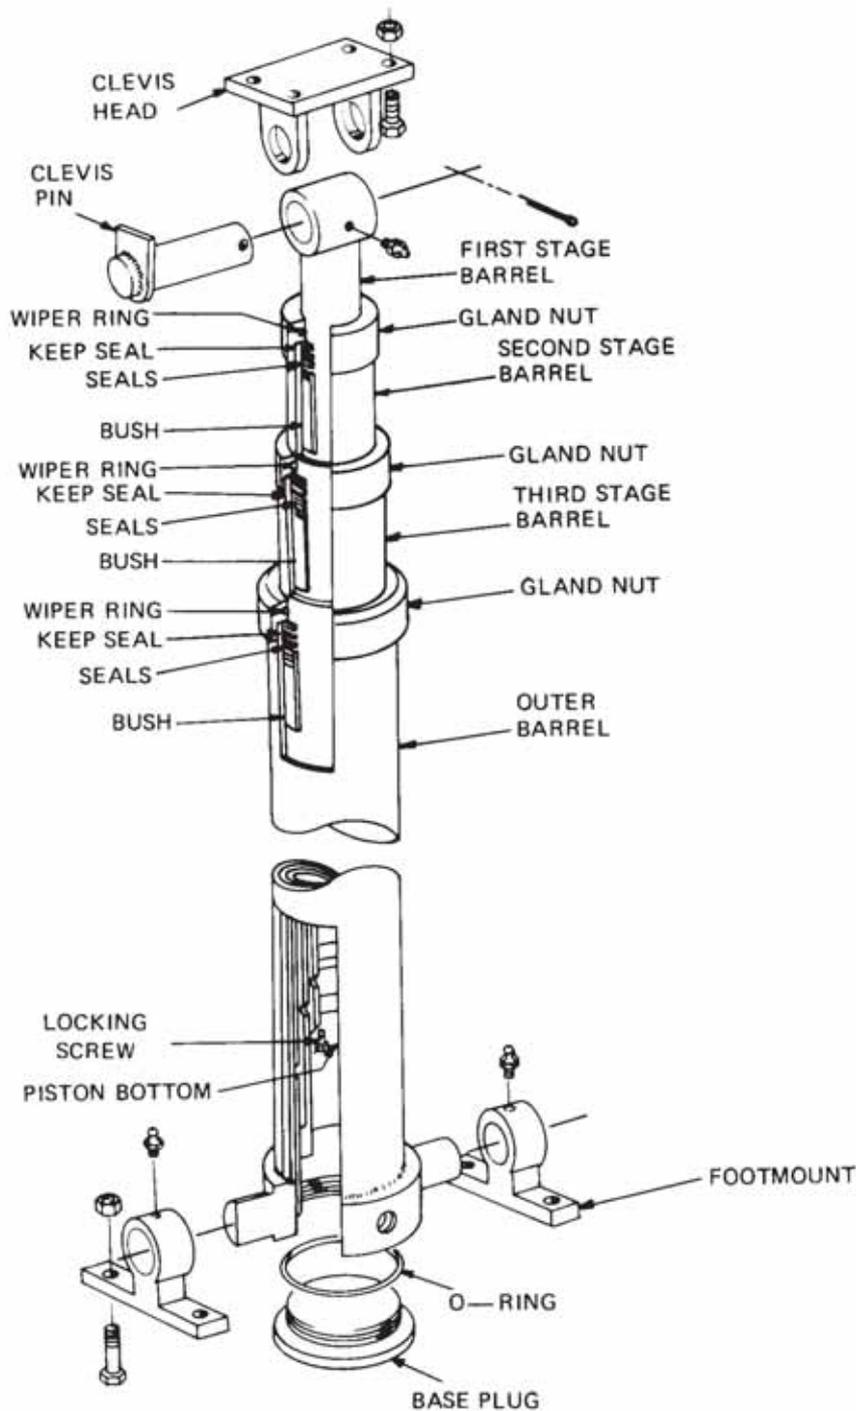

Figure 10 Hydraulic Hoist – Exploded View
18. An exploded view of the hydraulic hoist is shown in Figure 10 while Paras 29 to 33 details the complete hoist operation.